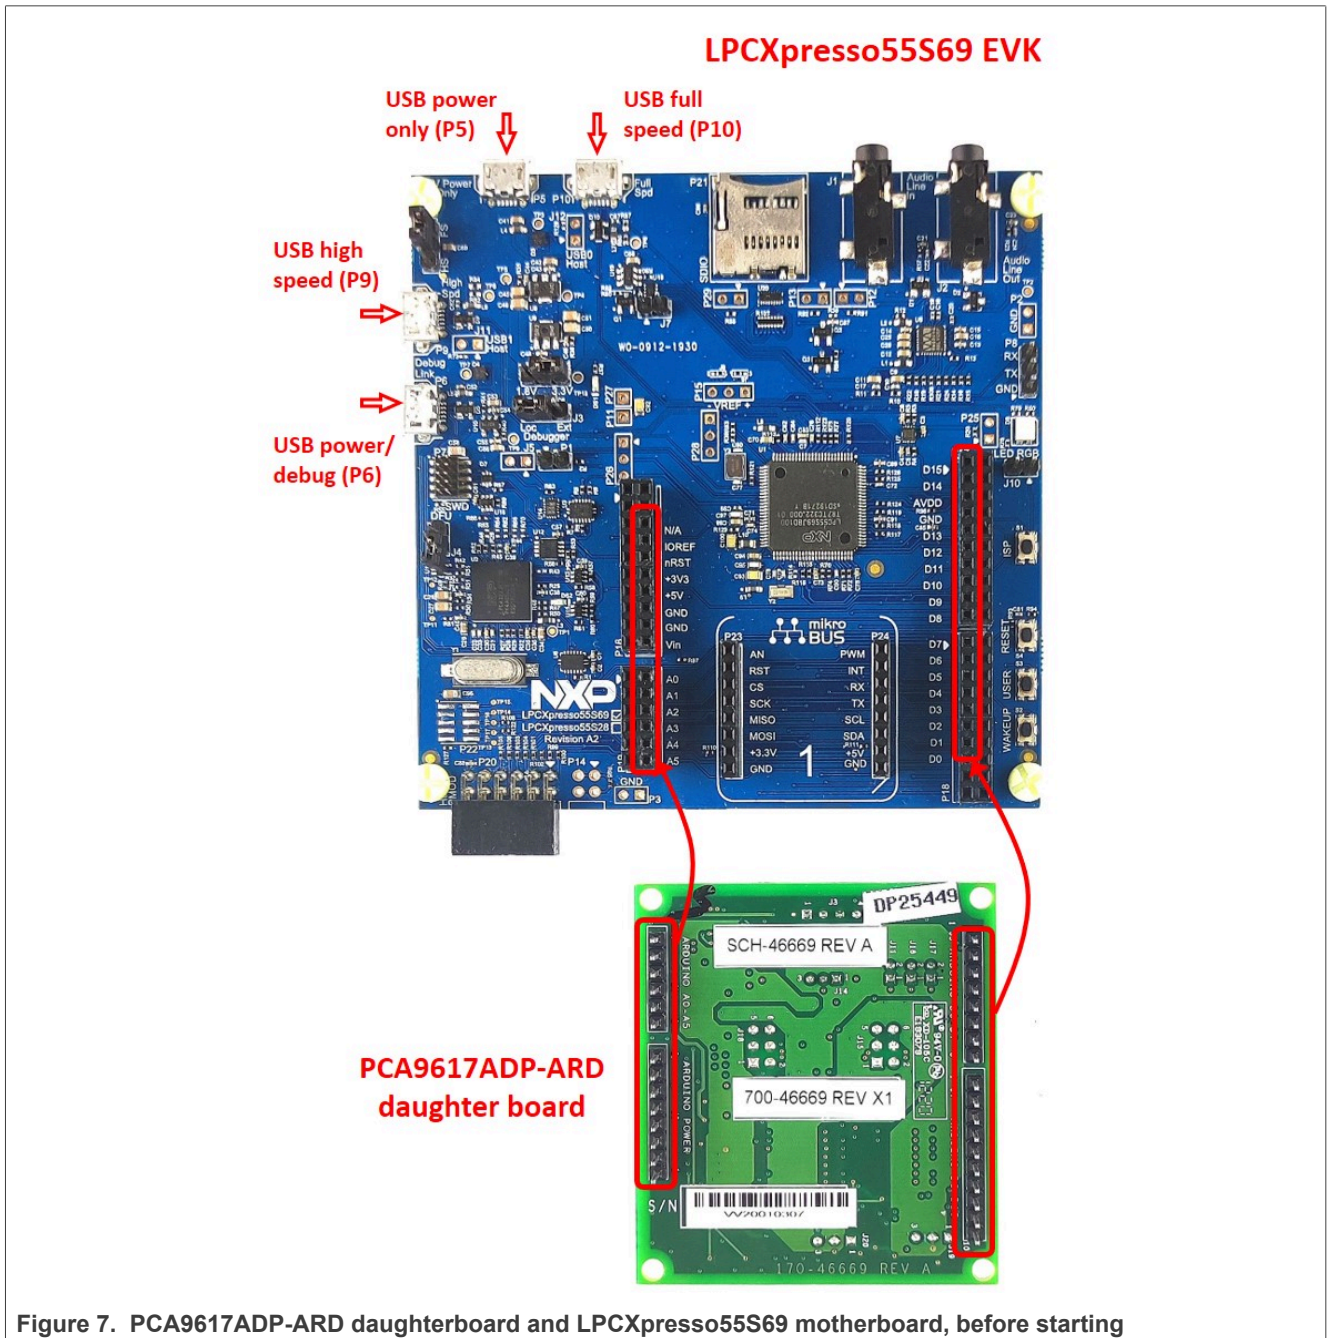

Figure 7. PCA9617ADP-ARD daughterboard and LPCXpresso55S69 motherboards, before starting
Figure 7 shows the required hardware for operation of the PCA9617ADP-ARD and LPCXpresso55S69 EVK board. This configuration consists of:
The following steps describe how to assemble, program, and operate the configuration shown in Figure 7.
1. Insert the PCA9617ADP-ARD daughterboard to P16 – P19 connectors located on LPCXpresso55S69 development board (see the marked pins of P16 – P19, Figure 7);